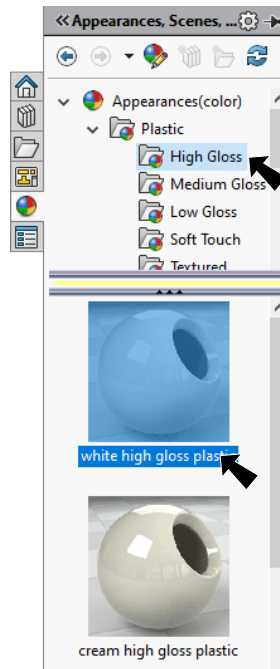

Fig. 18
Step 2. In the Appearances Task pane, expand **Plastic**, click **High Gloss** and in the lower pane select **white high gloss plastic**, Fig. 18.